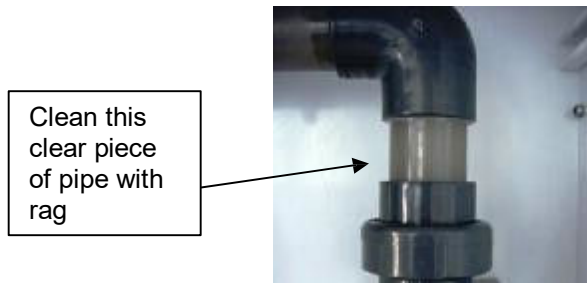

Figure 7
8. While the column is removed, clean the sight glass (bubble window) if deposits have accumulated. (See Figure 7)